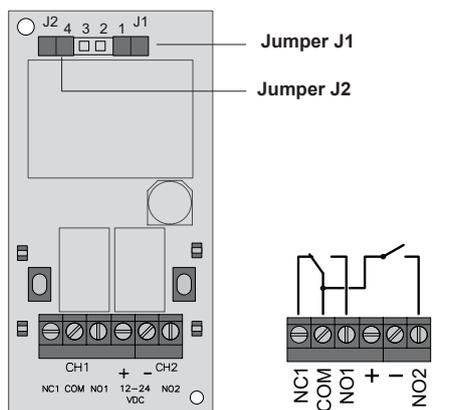

Fig. 1
3. Connect the supply voltage and the protective low voltage loads (see Fig. 1). The LED  will light up in green.